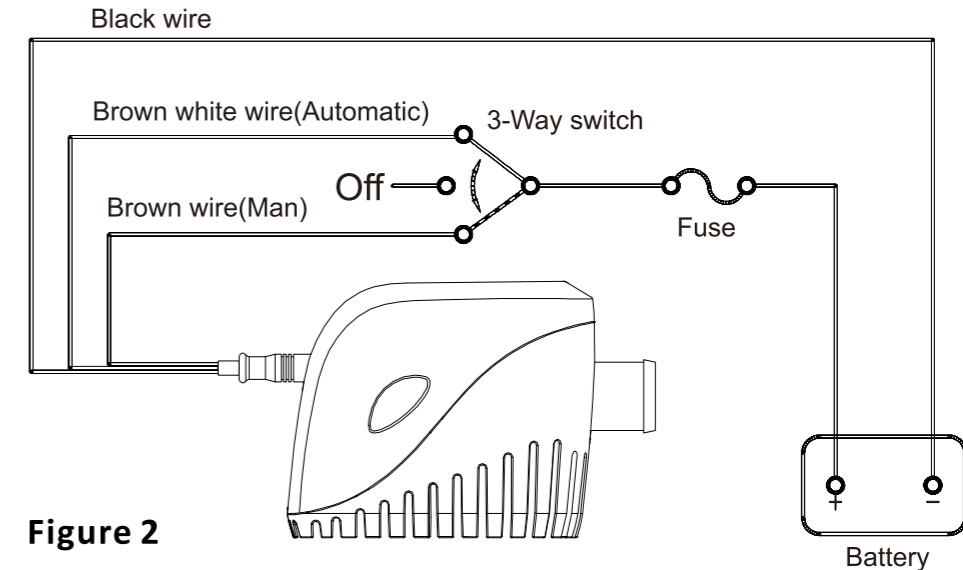

Figure 2
1. The line length should be enough if it is not long enough to wire. Please refer to (Figure 2) to connect the wires.